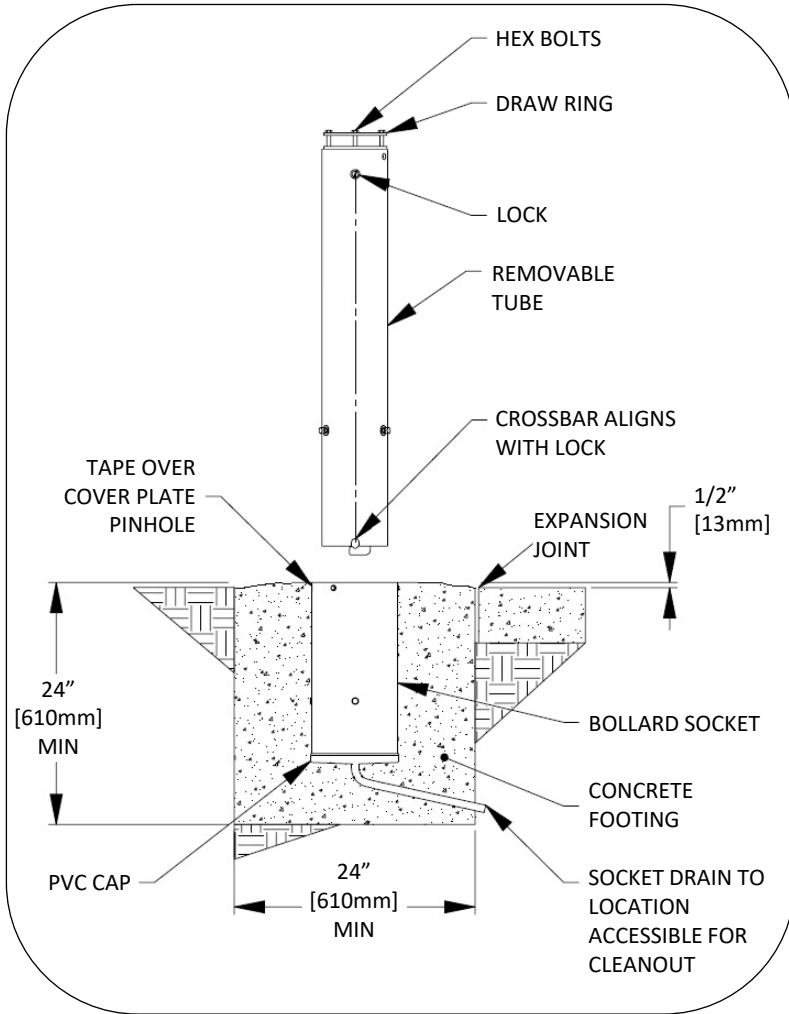

FIG. 2 – REMOVABLE SOCKET DETAIL
13. Install draw ring, see Fig. 2. Draw ring should rest on internal tabs of bollard body. Align draw ring holes with threaded holes on embedded tube.
14. Reinstall (4) hex bolts, tightening in an alternate pattern. **Do not overtighten.**